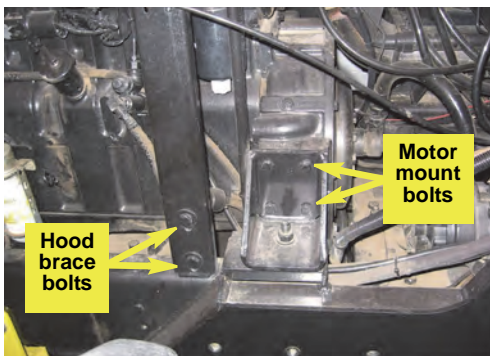

Figure 2a: Mounting location, row crop special models
- a. Locate the two bolts on the left hood brace (Figures 2a and 2b).
NOTE: *If tire clearance is an issue you can use the motor mount bolts, as shown in Figure 2a, to mount the automated steering block. The hood brace bolts are the preferred location.*